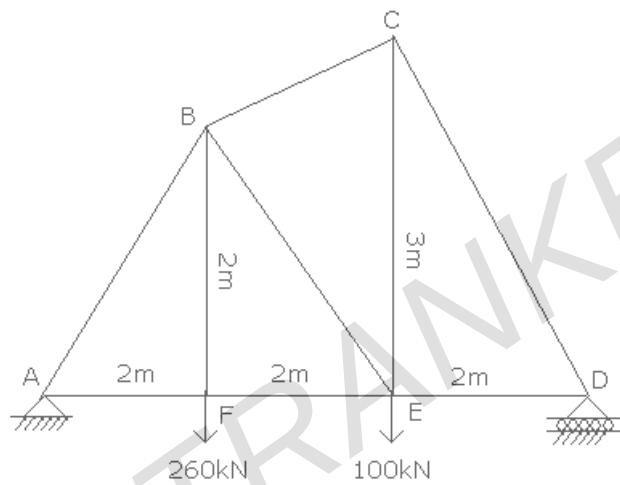

Figure 7
7. Analyse the frame shown in Figure 7. [16]